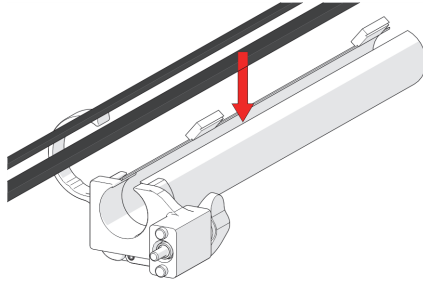

Figure 2-118 Insert cables and hoses
1. Open the cable management sleeve. Begin at the clamp end and start placing the cabling in the tube (see Figure 2-118 on page 123).